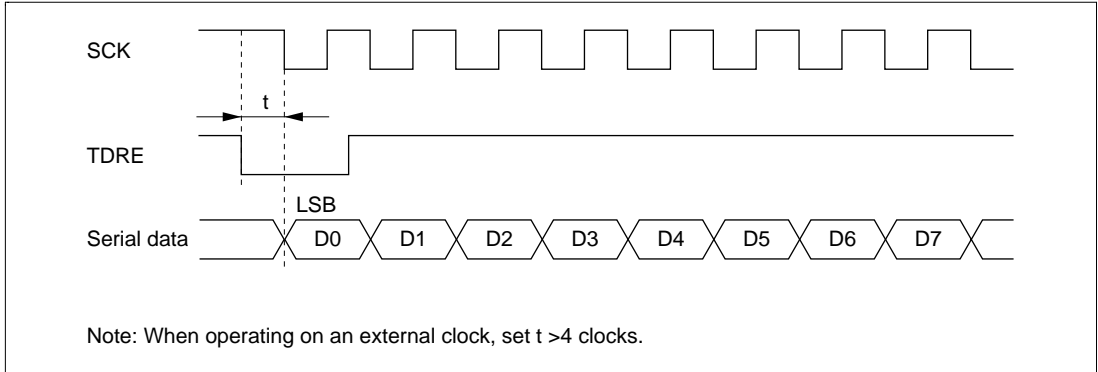

Figure 12-27 Example of Clocked Synchronous Transmission by DTC
- When an external clock source is used as the serial clock, the transmit clock should not be input until at least 5 ϕ clock cycles after TDR is updated by the DMAC or DTC. Misoperation may occur if the transmit clock is input within 4 ϕ clocks after TDR is updated. (Figure 12-27)